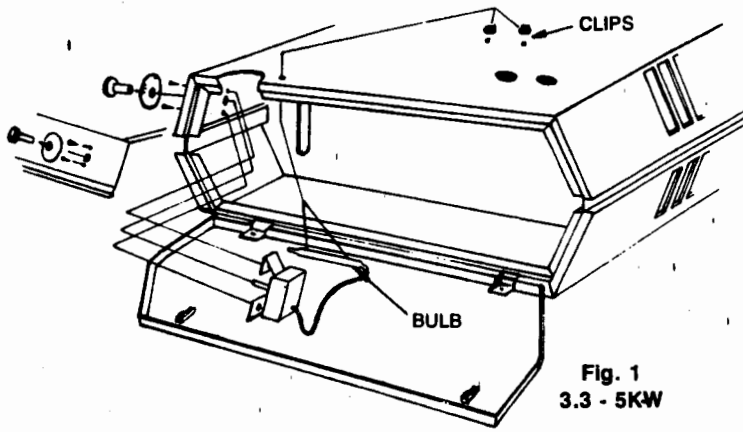

Fig. 1
5) Remove the three stat mounting knockouts from side of control compartment: 1) ⅜ & 2) ⅜. Remove backing from label (supplied). Align label with thermostat shaft hole and position as in Fig. 1. Press label on heater side as shown.
6) Note orientation of leg on thermostat bracket (see Fig. 1). Position *only* as shown. Install thermostat with the 2 No. 8 mounting screws provided.